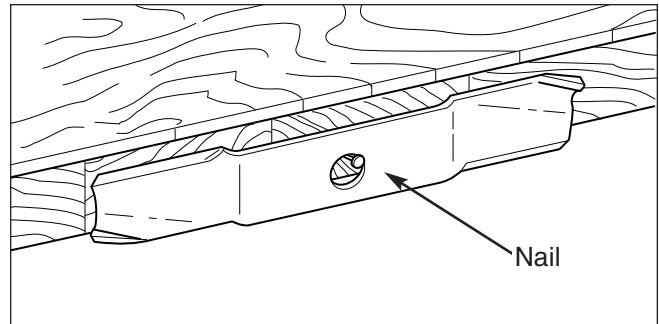

Figure 29. Balancing The Blade
4. Balance the blade as shown in Figure 29. Center the blade's hole on a nail lubricated with a drop of oil. A balanced blade will remain level.